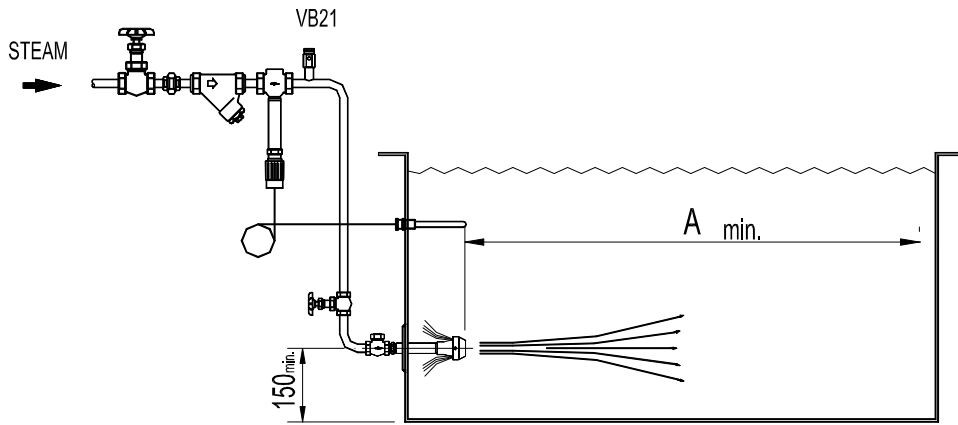

Fig.1
- The SI steam injector should be fitted as low as possible in the tank and always below the level of the thermostat controller. A minimum depth of water must be allowed below the injector as shown on Fig.1 and 2.
- The distance between the injector and the tank wall must be as great as possible. The dimensions mentioned on Fig.1 to 3 are the minimum recommended.
- A stiffener plate should be welded to the tank wall to carry the bulkhead fitting (Fig.4). A vacuum breaker (VB21) must be fitted between the injector and the control valve. Where steam supply pipe is below the level of the liquid in the tank (Fig. 1), a non return valve is recommended between the injector and the control valve to prevent the contents of the tank flowing back through the valve and up the steam supply pipe when the steam supply is turned off. A stop valve should also be fitted between the injector and the non return valve to enable maintenance work to be done on both the control valve and non return valve.